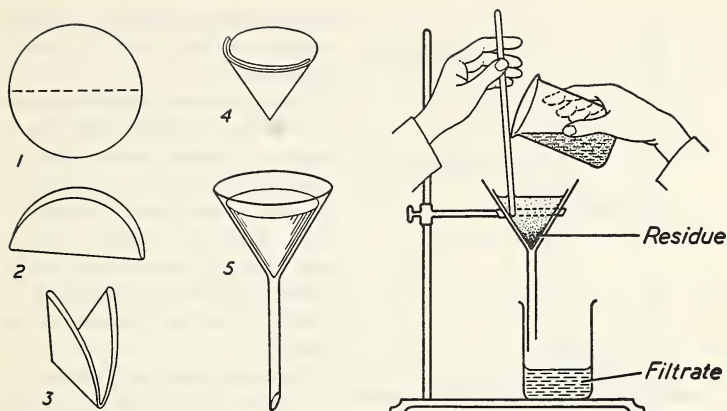

Fig. 4. The process of filtration.
4. Filtering. Insoluble material may be separated from a liquid by filtering. The porous filter paper is prepared for the funnel by folding it successively into the shapes shown in Figure 4. When the paper has been folded along its diameter and then again at a right angle to the first fold, one of the outside folds is opened so that the paper assumes a cone-like shape with three thicknesses of paper on one side and one thickness on the other. This is placed in the funnel and sufficient
Support the funnel in a ring attached to a retort stand and place an empty beaker or test-tube under the funnel to catch the *filtrate*. The liquid to be filtered should be poured slowly down a glass rod into the funnel, as shown in Figure 4. The lower end of the rod should touch the filter paper inside the funnel, so that the liquid will run down the side and thereby avoid breaking the apex of the filter paper. The acute edge of the funnel stem should touch the side of the collecting vessel. This permits the filtrate to run down the side of the receiving vessel and prevents spattering.